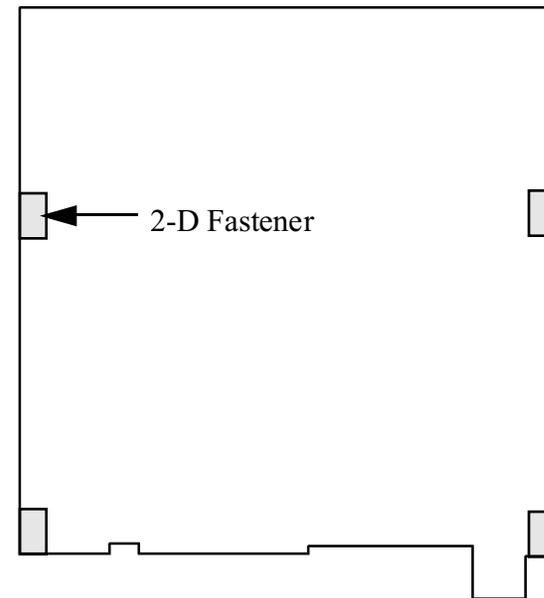

Figure 6-2
☐ Turn the board over. (Figure 6-2 shows the bottom side.) Four *2-D fasteners* will be attached to the RF board at the indicated locations to secure it to the chassis panels.
- Install 2-D fasteners at the four locations indicated in Figure 6-2, on the *bottom* of the RF board. Secure each fastener from the top side of the board with 3/16" (4.8 mm) pan-head screws and #4 split lock washers (Figure 6-3b).